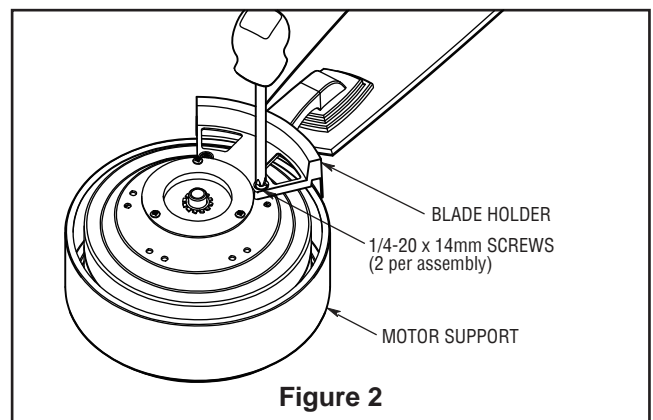

Figure 2
2. Secure the blade holders to the motor support using the 1/4-20 x 14 mm screws through the holes located on the side of the motor support (Figure 2).